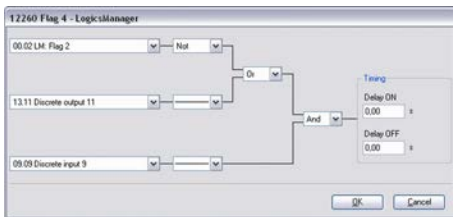

Fig. 173: LogicsManager function "Flag 4"
5. ➤ Configure the LogicsManager function "Flag 4" as shown in ( Fig. 173).